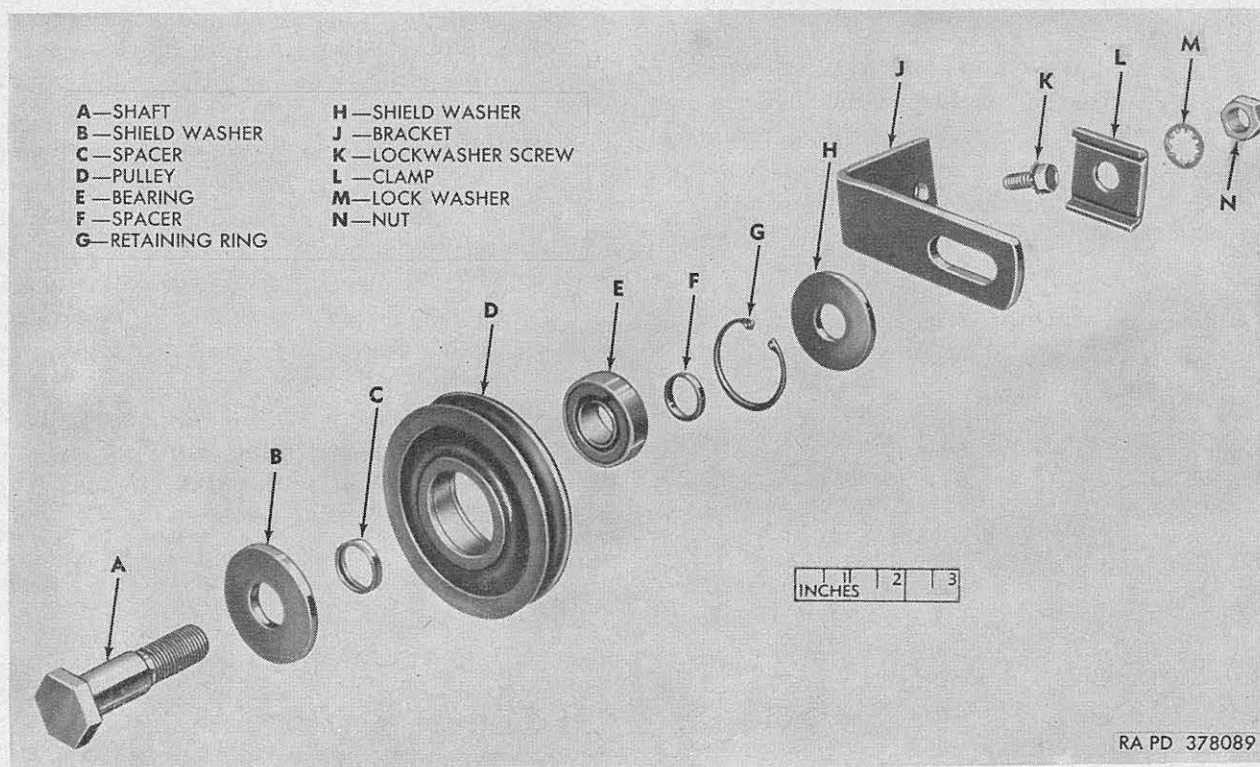

Figure 18. Idler shaft, pulley and bracket—exploded view.
- (2) *Installation.* Install snap ring (J) in inner groove at rear end of impeller housing (H) bore. Press bearing (K) into bore against snap ring, and install second snap ring (L). Turn housing over and install spacer (G) against front end of rear bearing. Push front bearing (F) into bore until it fits against spacer. Push impeller shaft (M) with attached parts into bearings from rear end of housing. Position inlet guard (A) and secure with four No. 8-32 x 3/8 cross-recess-pan-head integral lockwasher screws. Install blower pulley (E) (c above).
*e. Idler Pulley Replacement (fig. 18). Remove*